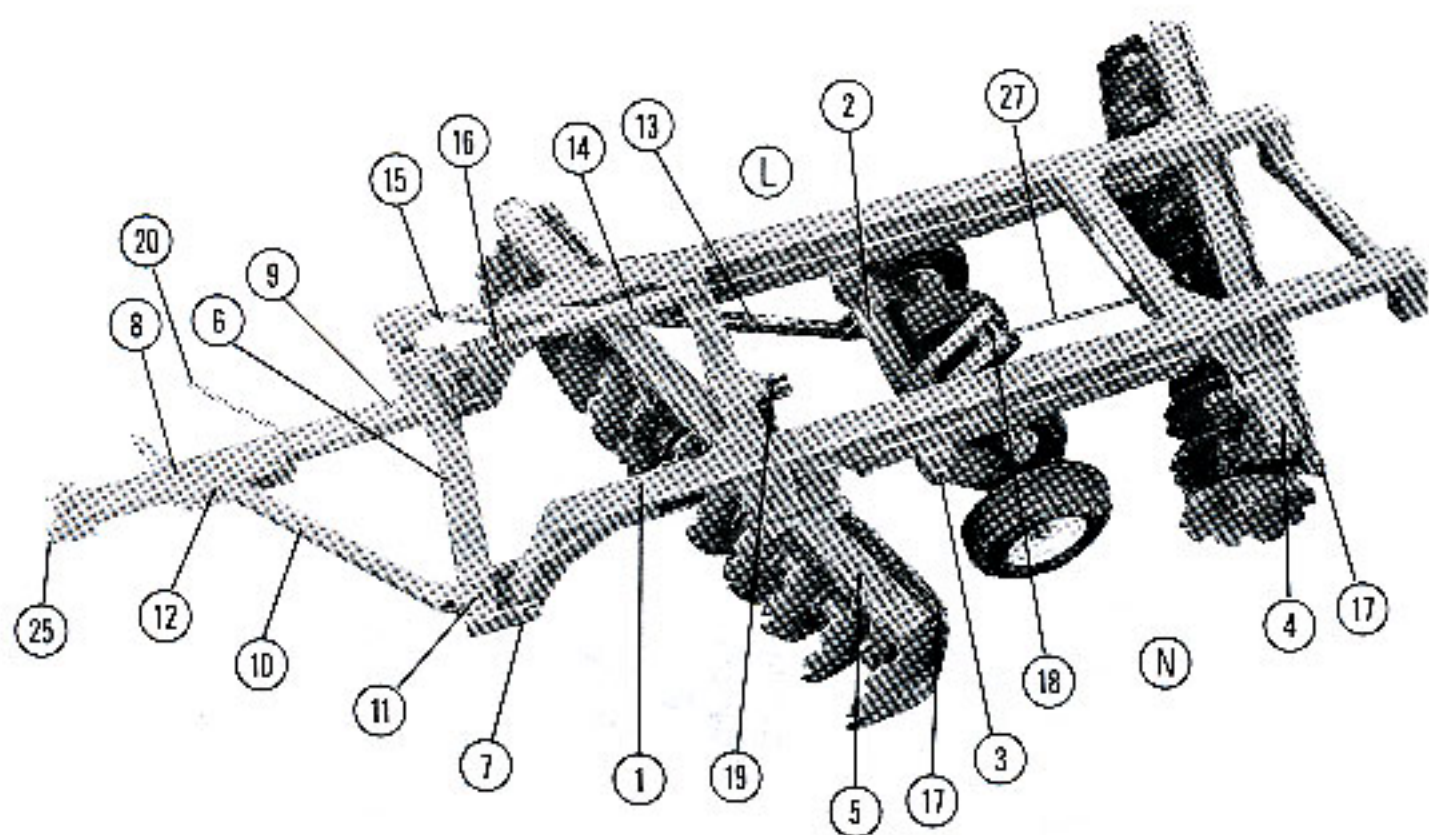

Figure 1
1. To Install Wheel Carriage and Wheels: (Refer to Figure 1) Place wheel carriage(2) under the main frame(1) and attach frame with pins(3). Install 5/16 x 2 lock bolts in pins and tighten lock nuts securely. Install wheels on to hubs with wheel bolts provided and tighten securely.
2. To Attach Gang Bars to Frame: (Refer to Figure 1) Bolt rear gang bar(4) to main frame(1) in center set of offsetting holes and in next-to-maximum angle with 3/4 x 3 1/2 bolts. Install leveling washers on top of angling plates on long side of disc(L). Install leveling washers between gang bar and angling plates on narrow side of disc(N). Bolt front gang bar(5) to main frame in next to maximum angle with 3/4 x 3 1/2 bolts. Install leveling washers same as rear gang.
3. To Attach Hitch Bridle to Frame: (Refer to Figure 1) Place bridle(6) at front of frame(1) and attach with pins(7). Install lock bolts and tighten nuts securely.
4. To Attach Hitch Pole to Bridle: (Refer to Figure 1) Attach main hitch pole(8) to bridle(6) at lead corner(9) with 1 x 6 bolt. Attach hitch side arm(10) to opposite side of bridle(11) with 1 x 6 bolt. Join hitch pole and side arm with 1" pin at adjustable eye bolt(12). Tighten all bolts securely.
5. To Attach Fore-Aft Leveling Assembly: (Refer to Figure 1) Install short tube(13) to wheel carriage with 1" pin. Install long tube(14) with 1" pin. Slide short fore-aft eye bolt(15) into bottom tube(13) (pinned to wheel carriage) and pin to bottom hole of bridle meet(6). Slide long fore-aft eye bolt c/w spring and washers into top tube(14) (attached to main frame) and pin to top hole of bridle meet(6).
6. To Attach Scrapers: (Refer to Figure 1) Attach scraper bars(17) to gang bars (4 & 5) with carriage bolts provided. Attach scrapers to scraper bar with clamps and bolts provided use care to adjust scrapers close to discs but not rubbing.
7. To Double Wide Right and Left Hand Offsets: (Refer to Double Wide drawing). Set together following regular instructions except item No. 4 - to attach hitch pole to bridle - the hitch pole is attached to the opposite side from the lead corner and the side arm is attached to the lead corner with 1 x 8 bolt. Set left hand disc(1) stationary and pull right hand disc(1) along side leaving front gang of right hand disc behind front gang of left hand disc. Attach rear spreader bar(5) with pins. Attach front spreader bar(6) with pins. Join right hand main hitch pole to left hand main hitch pole(3) with 1 1/4" pin(7). Adjust swivel flapper with 1 x 6 bolt for proper direction(8).
1. **Hydraulic Cylinder and Hoses:** (Refer to Figure 1) A standard 8" stroke double acting hydraulic cylinder is required to lift disc. Two 16 ft. hydraulic hoses are needed to allow full offsetting and turning without hose damage.
2. **Angle Changing:** (Refer to Figure 1) To change angle. Raise disc on wheels unit discs are clear of ground. Remove bolt(21) and loosen the three remaining bolts. Slide gang bar forward or backward as desired. Replace bolt and tighten all bolts securely. For ordinary conditions set both front and rear gangs in next to maximum angle. Increase angles as required to soil conditions.
4. **Offsetting The Hitch:** (Refer to Figure 1) This unit is designed to trail straight behind the tractor. Minimum side draft will be obtained when the hitch is in line with outside beam of main frame. If more adjustment is required screw hitch side arm eye bolt(12) to desired position, then retighten jamb nut to reduce pressure on eye bolt thread.
- A. **Front to Rear:** (Refer to Figure 1) Width disc raised and hitch to tractor, adjust bottom fore-aft eye bolt(15) until main frame is level. Adjust fore-aft spring lock(16) until spring is snug. The top spring should be under some compression when discing, but should never be compressed solidly. NOTE: In general use as little pressure as possible when discing.
6. **Transporting:** (Refer to Figure 1) Disc may be transported without using hydraulic cylinder. Place the rod(27) through the hole in anchor on frame(1) and place clevis over transport block. Raise the disc until the cylinder has reached the end of its stroke. Insert pin in clevis and adjust transport rod nut until there is about $\frac{1}{2}$ " between nut and transport anchor. Release pressure on hydraulic cylinder and remove. **CAUTION:** extreme care should be taken not to collapse the cylinder too much with the transport rod in transport position.